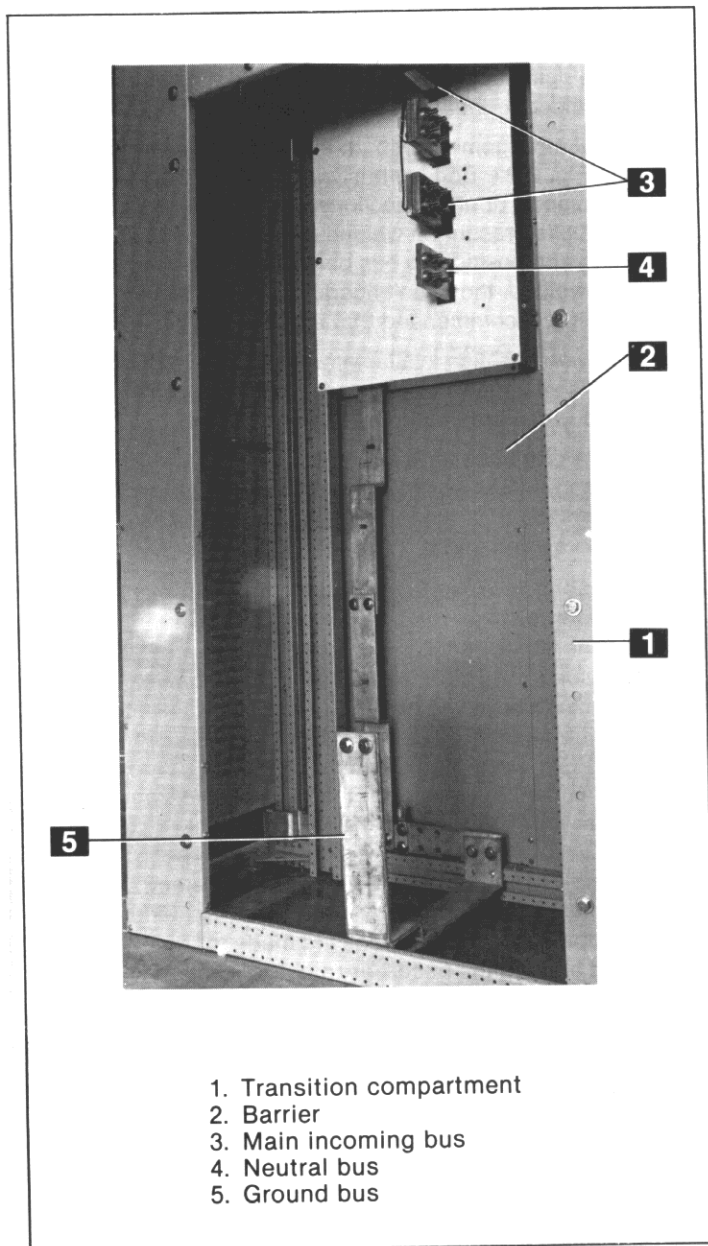

Fig. 3-25. Transition section
A vertical barrier (2), Fig. 3-25, between the transition section (1) and the first breaker section is furnished where specified.